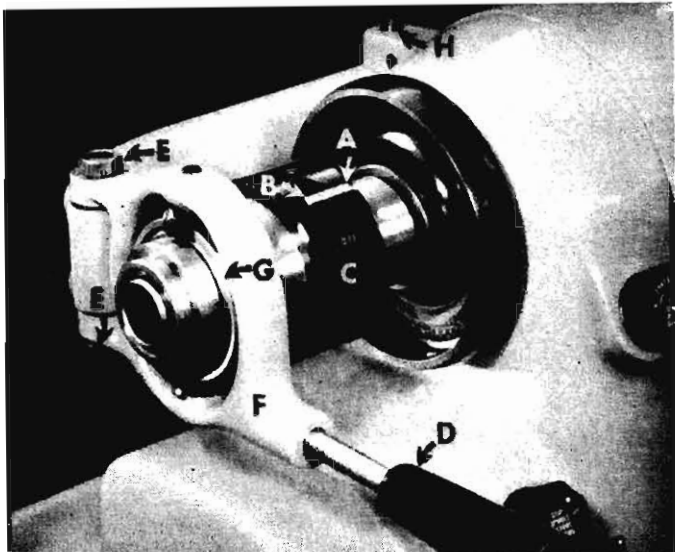

Figure 11
ADJUSTING COLLET CLOSER -- Figure 11
2. Open collet closer latch "A", Figure 11, by pressing down at point "B".
3. Engage the collet closer tube on the collet or step chuck and thread about two turns only. To turn the collet closer tube, the operator, using his left hand, turns the black shell guard "C", Figure 11, forward while he holds the collet or step chuck in place with his right hand.
5. Move lever "D", Figure 11, to the extreme left or closed position and then turn shell guard "C" toward the operator until it is drawn up as far as it will go by hand. If headstock spindle should turn, lock spindle by pressing in spindle lock pin "D", Figure 3, Page 12. To engage lock pin into notches provided, turn the spindle by hand until pin enters notch to lock.
The two adjusting screws and lock nuts located at "E", Figure 11, are set at the factory. By adjustment of lock nuts "E", lever yoke "F" is raised or lowered so there is no pressure on bearing "G".
HOW TO REMOVE COLLET CLOSER -- Figures 11 and 12
To remove the collet closer remove link pin "H", Figure 11. This pin is easily removed by the use of a mallet and brass punch, striking pin at bottom.
CAUTION: DO NOT REMOVE COLLET CLOSER BY REMOVING SCREW "E", Figure 11. This screw is adjusted properly at the factory for proper operation of collet closer. Remove link pin "H", Figure 11, only. After removing pin "H" remove collet closer as shown in Figure 12. It is then necessary to remove adjusting nut "A", Figure 12. This is done by pulling nut straight off end of spindle. **DO NOT TURN ADJUSTING NUT -- IT IS NOT THREADED TO SPINDLE.**
Apply a film of light oil on rear of headstock spindle and apply adjusting nut "A", Figure 12. Apply a film of light oil on bearing section "B", Figure 12, of collet closer tube and slide closer on machine and insert link pin "H", Figure 11.